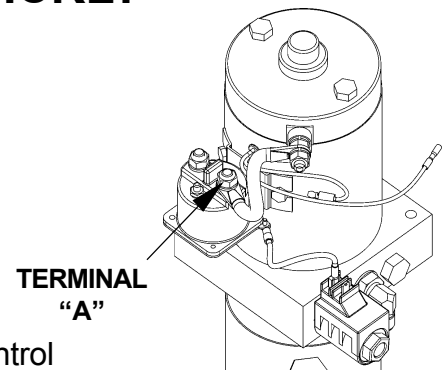

FIG. 9
1. Use voltmeter to verify that power is being supplied to Solenoid Terminal "A". Recharge the battery if voltmeter indicates less than 12.6 Volts (**FIG. 9**).